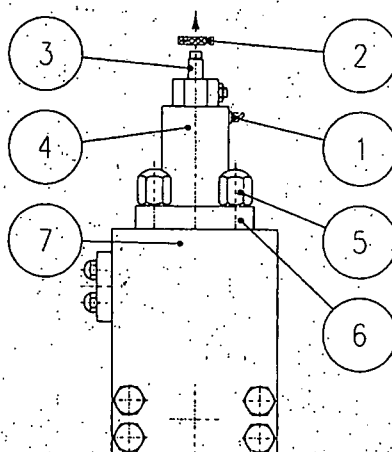

Figure 1
1. Remove stop ring Pos.2 (see Figure 1).